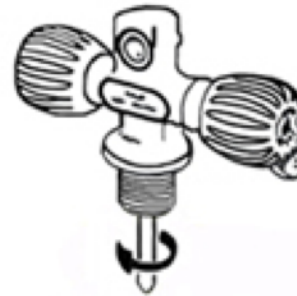

Figure A-1
1. With a pair of pliers, unscrew the tube counterclockwise and remove it (See Figure A-1). If the tube will not unscrew, soak the valve assembly in hot water. If soaking does not break the adhesive, use pliers to snap off the tube flush with the base of the valve.